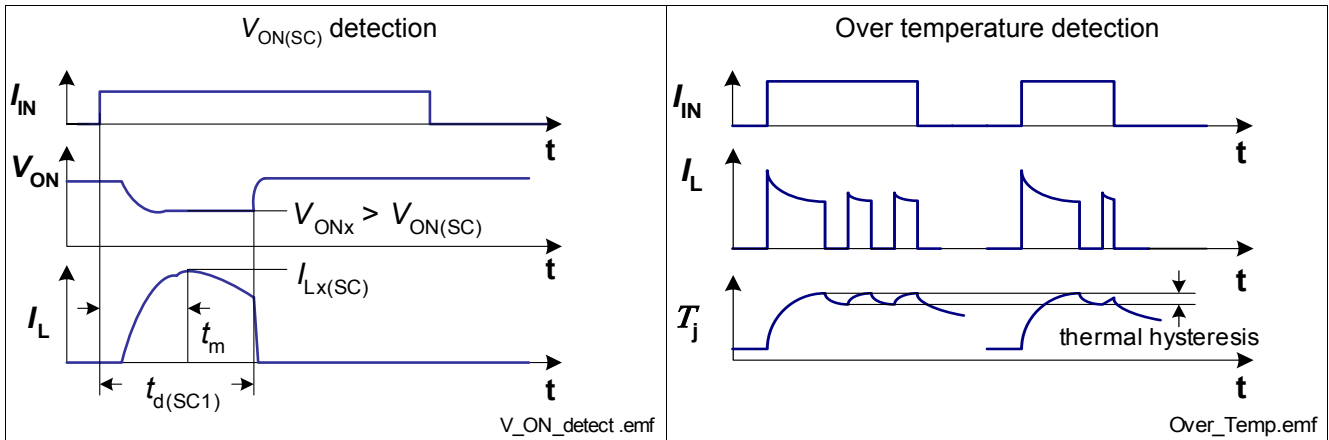

Figure 12 Overload Behavior
In the event that either the short circuit detection via $V_{ON(SC)}$ is not activated or that the on chip temperature sensor senses over-temperature before the blanking time $t_{d(SC1)}$ expired, the device switches off resulting from over-temperature detection. After cooling down with thermal hysteresis, the device switches on again. The device will react as during normal switch on triggered by the input signal. Please refer to **Figure 12** and **Figure 19** for details.
- 2) Short circuit current limit for max. duration of $t_{d(SC1)}$, prior to shutdown, see also Figure 12.